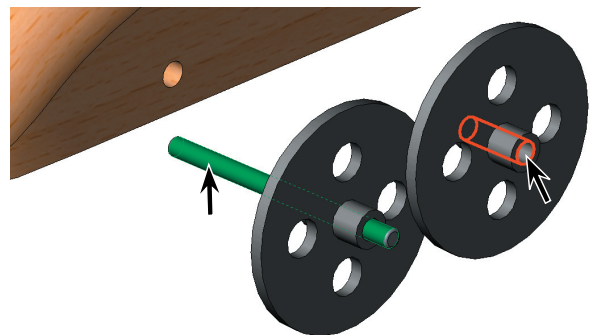

Fig. 7
Step 8. Click **cylindrical face of axle** and **cylindrical inside face of the hole in other wheel**, **Fig. 7**.